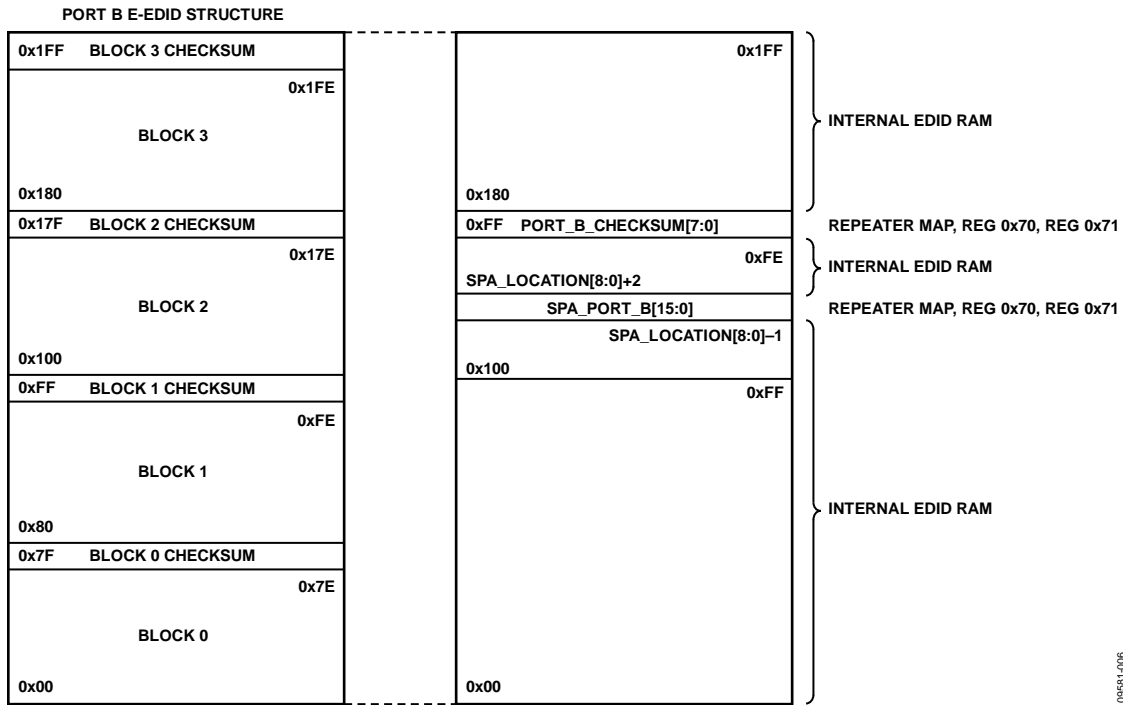

Figure 7. Port B E-EDID Structure and Mapping for SPA Located in E-EDID Block 2
- Figure 7—SPA located in E-EDIDBlock 2